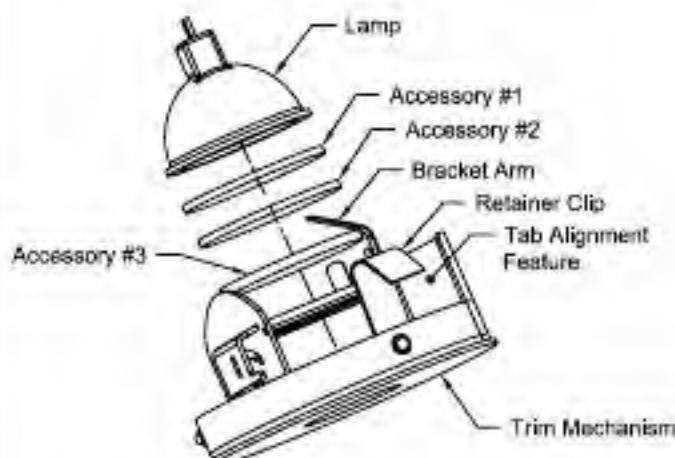
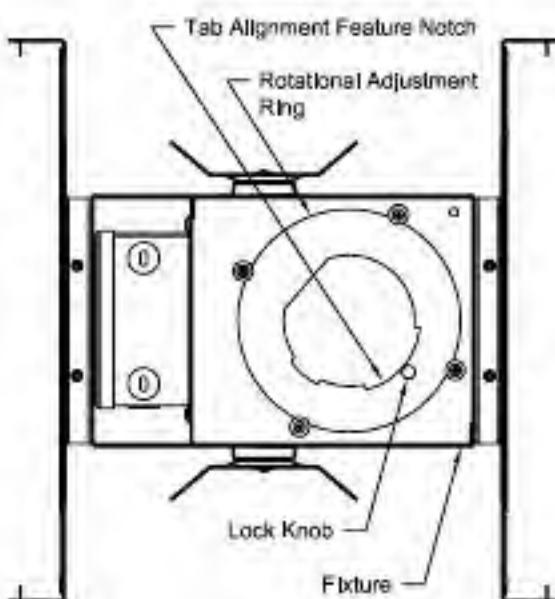

Figure 3
Figure 5
2. Slide out Lamp and/or Accessories from under Bracket Arm to remove. See Fig. 3.
4. To ensure original light beam placement, align Tab Alignment Feature on Trim Mechanism (See Fig. 3 & 4) with Tab Alignment Feature on Rotational Adjustment Ring Inside Fixture (See Fig. 5).
1. With power ON and Trim Mechanism in place, Insert Phillips Head Screwdriver through Hole or Slot in Trim into Bearing Funnel. See Fig. 5.
2. To re-align Lamp, turn #6-32 Flathead Screw to desired position using visual Angle Indicators on Banana Bracket. See Fig. 5.
3. Tighten Lock Knob inside Fixture to lock Rotational Adjustment Ring. See Fig. 5.